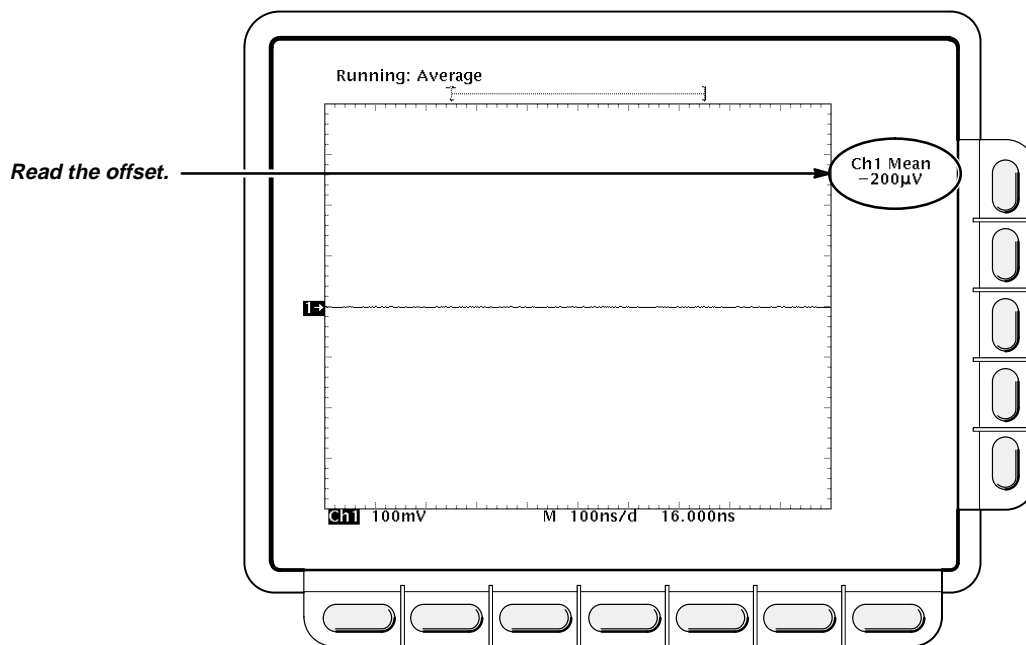

Figure 1-5: Measurement of DC Offset Accuracy
- d. Read the measurement results at the mean readout on screen. See Figure 1-5. Record the results for later use.